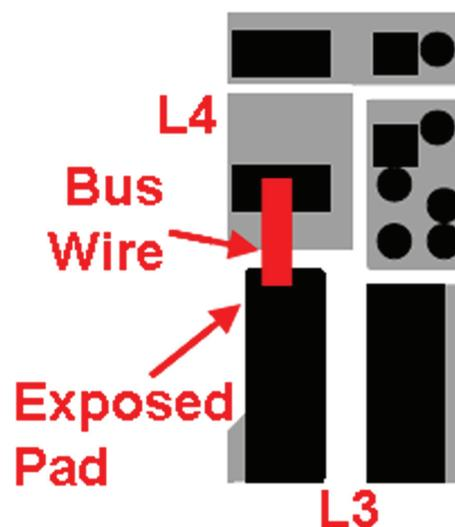

Figure 10. Buck3 and Buck4 Combined Setup
4. Short SW3 to SW4 with a solid 24 AWG or larger bus wire between the exposed portion of the L3 SW pad and the SW pad on L4 as shown in Figure 10.